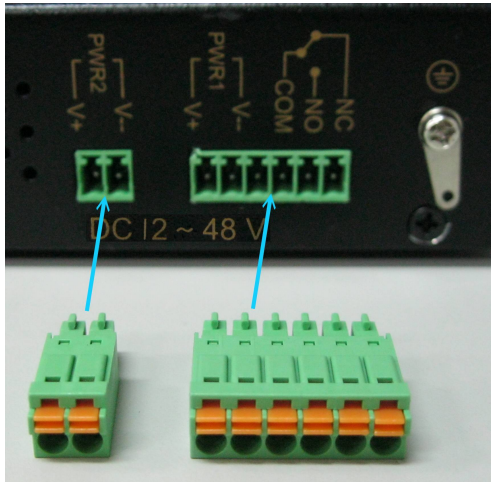

Figure 2.4.1
- ◆ Take out the “2pin / 6pin terminal block” from inside the accessory kit, and install to the modem properly. (Figure 2.4.1)